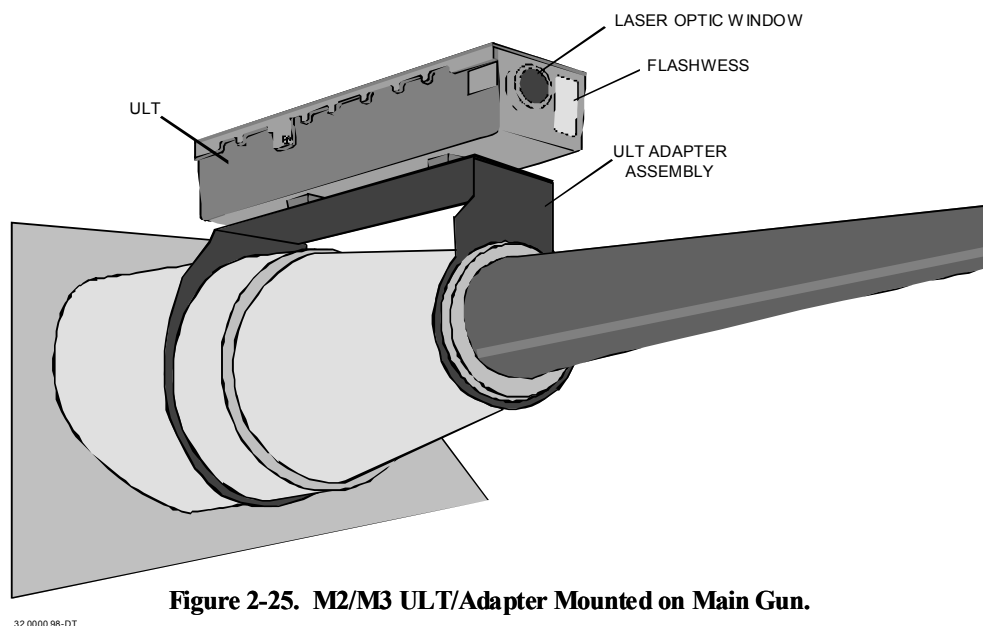

Figure 2-25. M2/M3 ULT/Adapter Mounted on Main Gun.
- d. Mount the ULT on main gun and adjust the ULT and adapter so that the ULT is horizontally aligned with the main gun. The ULT Adapter Assembly clamp needs to be opened to facilitate mounting the device on the main gun. (See Figure 2-25.)